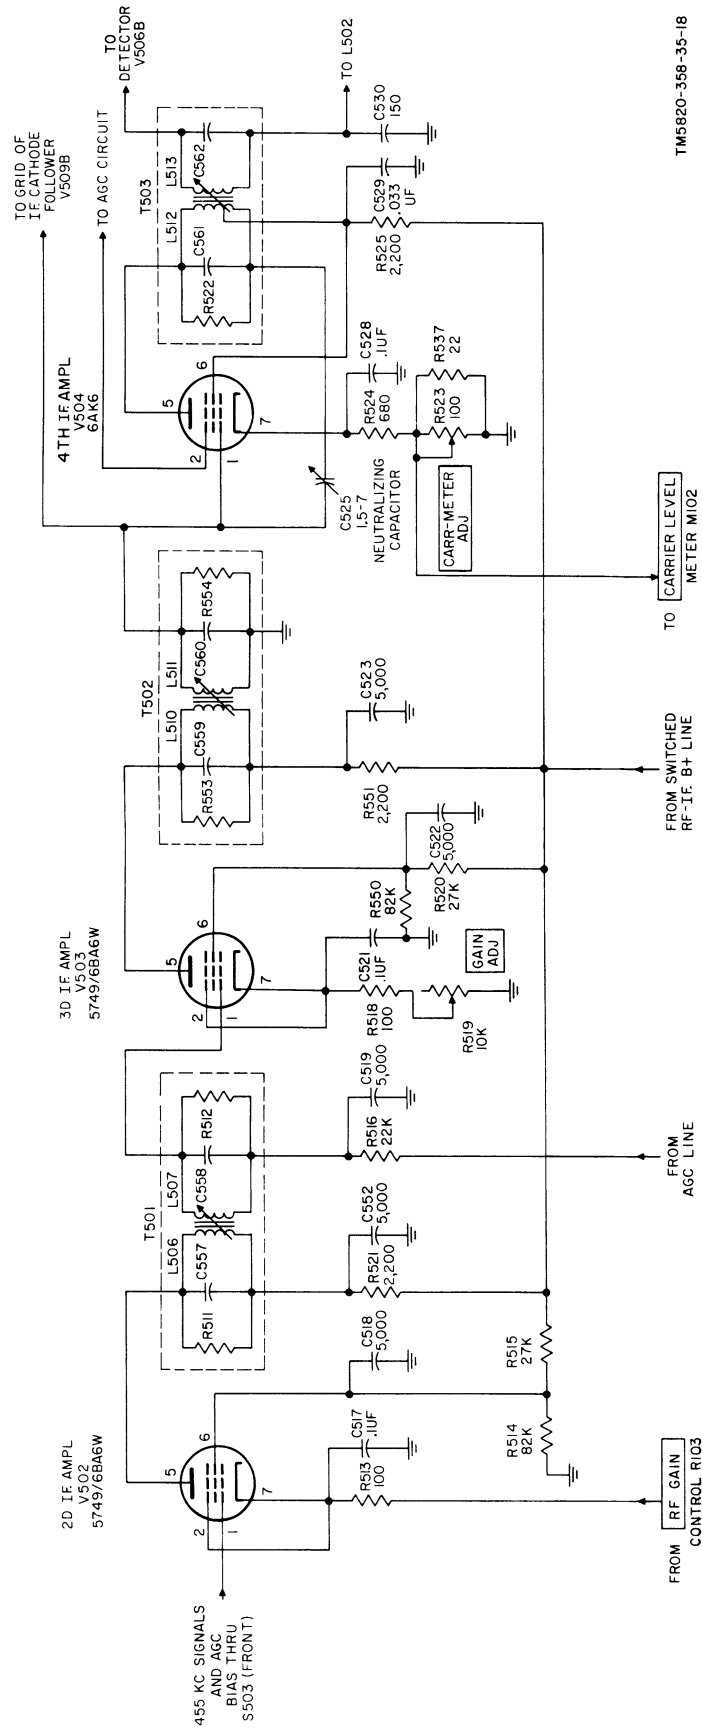

Figure 16. Second, third, and fourth if. amplifiers V502 through V504, simplified schematic diagram.
### 17. Second, Third, and Fourth If. Amplifiers (fig. 16)
a. Detector V506B is connected as a half-wave diode by connecting the control grid and plate together. The secondary winding (L513) of T503 (fig. 16) feeds the signal from fourth if. amplifier V504 to the detector. The diode load consists of resistors R527 and R526. To connect these load resistors to the stage, the jumper at DIODE LOAD terminals 14 and 15 on TB103 must be in place. Capacitor C530 and choke coil L502 are an if. filter used to remove if. signals from the detected audio.